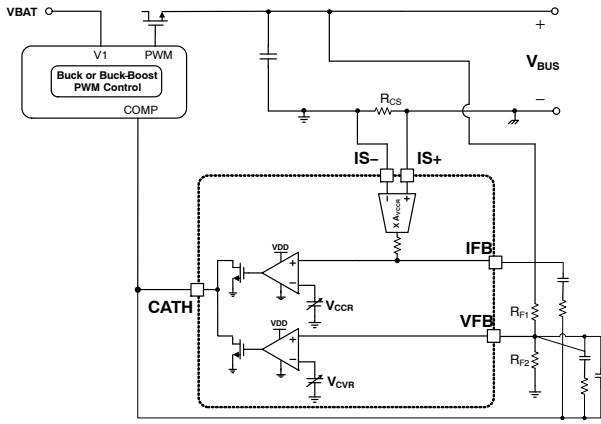

Figure 8. Voltage and Current Sensing Circuits
In order to regulate adaptive output voltages, the constant voltage control (CV) is implemented. The output voltage is sensed through an external resistor divider. The sensed output voltage is connected to the VFB pin, and it is input the non-inverting input terminal of the internal operational amplifier. The inverting input terminal is connected to the internal voltage reference (VCVR) which can be adjusted according to the requested output voltage. The amplifier and an internal switch operate as a shunt regulator, and the output of the shunt regulator is connected to the CATH pin. To compensate output voltage regulation, typically, two capacitors and one resistor are connected between CATH and VFB pins as Figure 8. The output voltage can be derived as calculated by the Equation 1, and the ratio of the resistor divider is 10. The reference (VCVR) for the output voltage is generated by a 10-bit DAC. The minimum resolution is 20 mV to meet PD compliance for PPS.
Constant Current Limit (CL or CC) or control is enabled during USB PD explicit contracts with a PPS APDO. When CL (or CC) mode is enabled, the supply will decrease the output voltage as the load increases in order to maintain a fixed output current. Output current is sensed via a current – sense resistor R_{CS} , which is connected between the IS+ and IS– pins. The sensed signal is internally amplified, and this amplified voltage is connected to the non – inverting input of the internal operational amplifier. Similar to the constant voltage amplifier circuit, it also plays a role as a shunt regulator to regulate the constant output current. In order to compensate output current regulation, one capacitor and one resistor are connected between the IFB and CATH pins as shown in Figure 8. The constant output current can be calculated using Equation 2. 5 mΩ is typically used for the sense resistor.